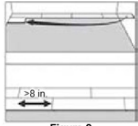

Figure 2
6. Begin the second row with the cut piece from the first row. If the cut piece is shorter than 8", do not use it. Instead, begin with a new board that is at least 8" in length and allow 8" between the end joints on the adjacent planks. Figure 2.